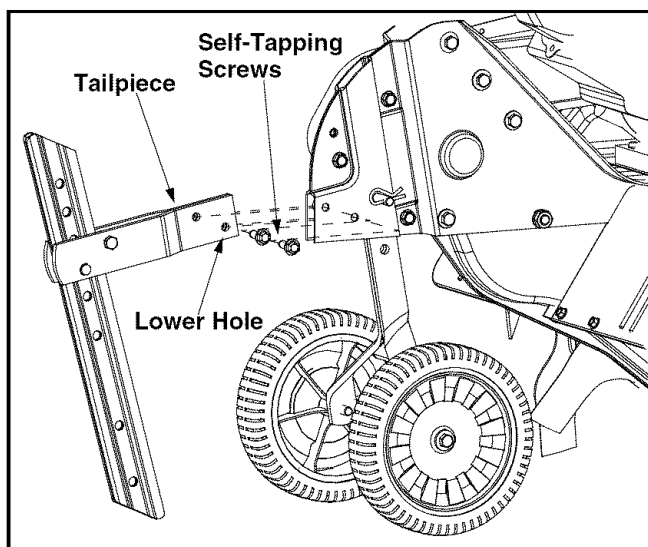

Figure 2
(1) 1/2" socket wrench (or adjustable wrench)
- Remove the two self-tapping screws on the frame and slide the tailpiece into the frame, with the lower hole in the tailpiece toward the front. See Figure 2.